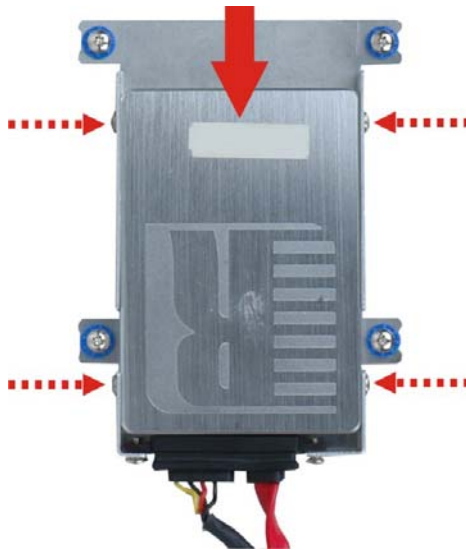

Figure 3-5: HDD Retention Screws
Step 4: Attach the HDD bracket to the HDD. Slide the HDD to connect the HDD to the SATA connector. Secure the HDD with the HDD bracket by four retention screws (Figure 3-5).